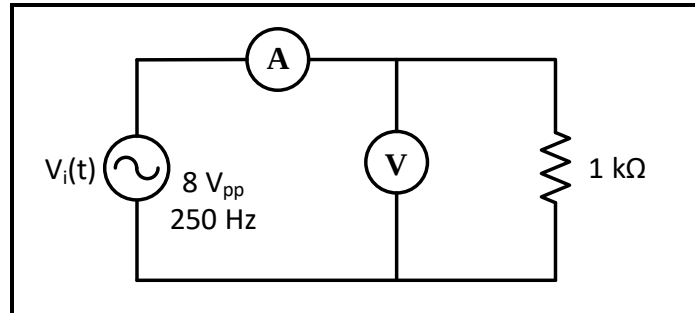

Figure 9.7
1. For the circuits shown in Figures 9.7 - 9.10 **calculate the magnitude** of the impedances Z_R , Z_C , Z_L , and Z_{RC} respectively, for the following frequencies: 250, 500, 1000 and 2000 Hz.
1. Connect the circuit in Figure 9.7, set V_{in} to sinusoidal voltage at $8 V_{pp}$, $f = 250$ Hz